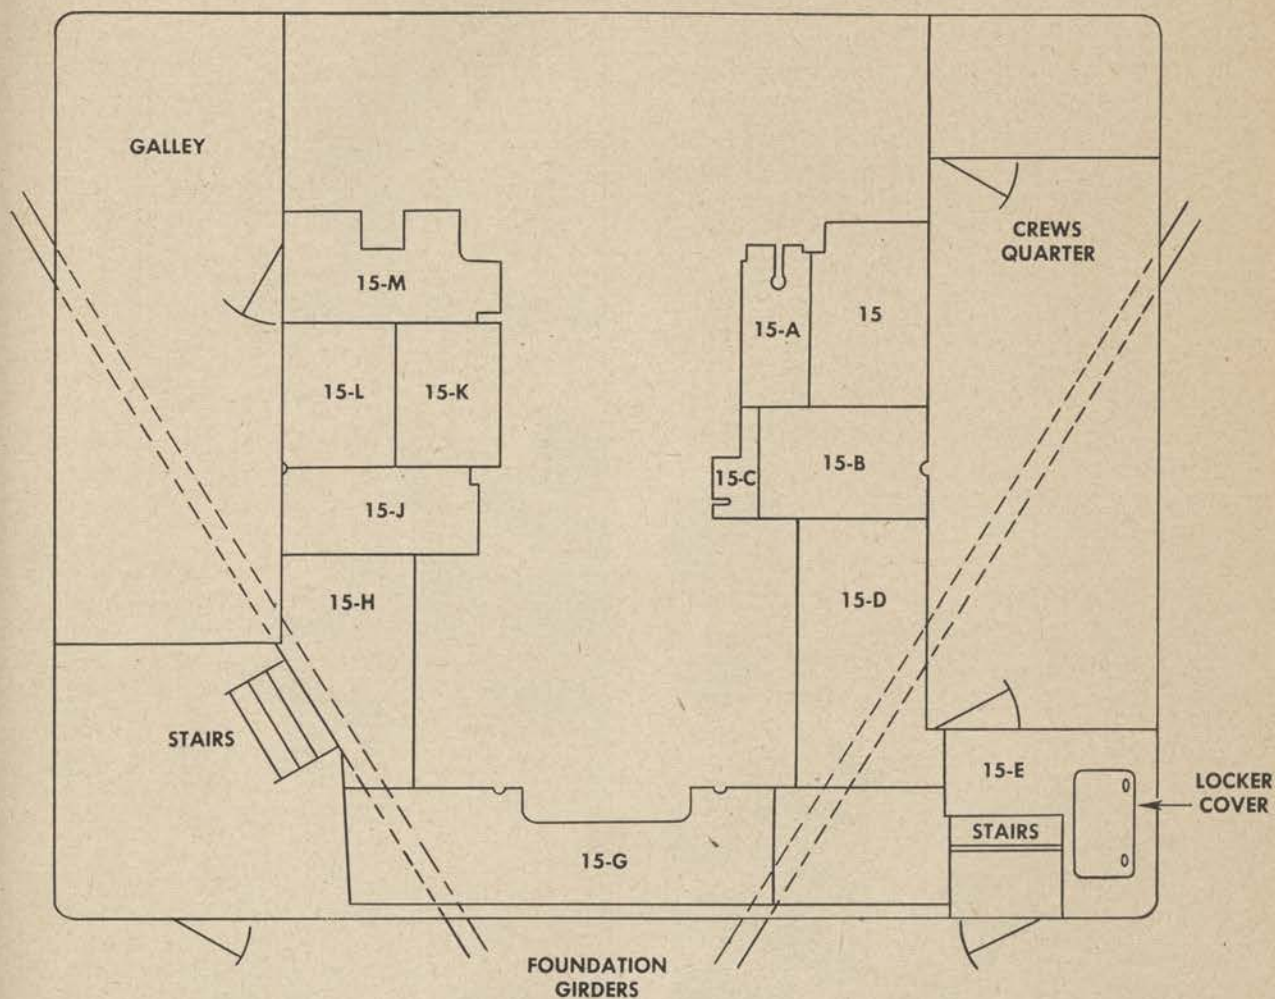

Figure 44. Lay-out of deck house floor plates.
(5) *Assembling deck house floor plates.* Upon completing the piping installation, install the deck house floor plates in accordance with the layout shown in figure 44. Bolts passing through
Note. Exercise care in laying out the floor, that the plates used are in the correct position, as shown in figure 44. Follow the match marks closely since some of the plates appear alike and may be incorrectly fitted.